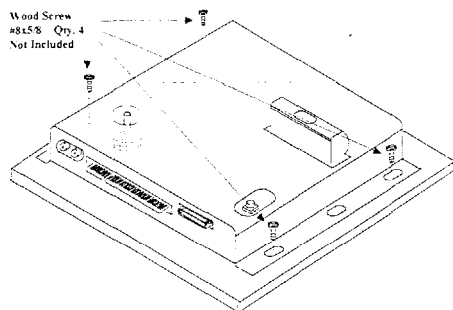

Figure 8: PC Board Mounting
25. Install the caged PCB to the control panel shelf with supplied wood screws, as shown in figure 8